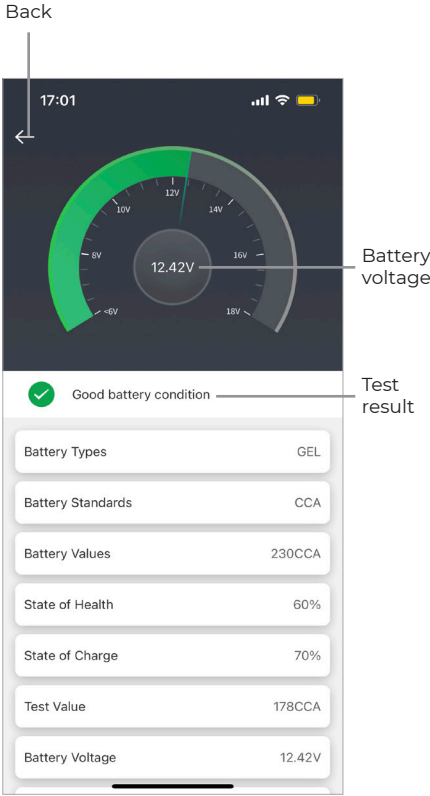

Figure 5.3.2
- 3) Press "Next" and the test result will show as below (See Figure 5.3.2). You can save and share the test result with any individual or available applications.